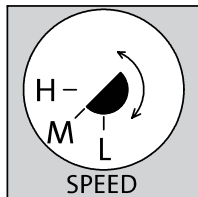

Figure 7a
- Remove (2) timer cover screws.
- Gently rotate speed selection stem to desired speed (see Figure 7a).
- Re-install (2) timer cover screws.
1. Remove the four (4) Allen screws from the pump housing and stator (4 or 5mm wrench) while supporting the stator (motor).
4. Check that the motor shaft turns freely. Remove the large screw in the middle of the nameplate, insert a small flat blade screwdriver into the end of the shaft, and turn gently (see fig. 7a).